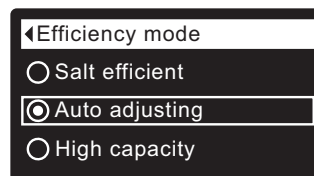

FIG. 86
- 8a. **Efficiency mode:** If the desired efficiency mode already has a dot next to it (See Figure 86), go to Step 9. Otherwise, press the DOWN (▼) or UP (▲) buttons to scroll to the desired efficiency mode, then press SELECT (O) to choose it.